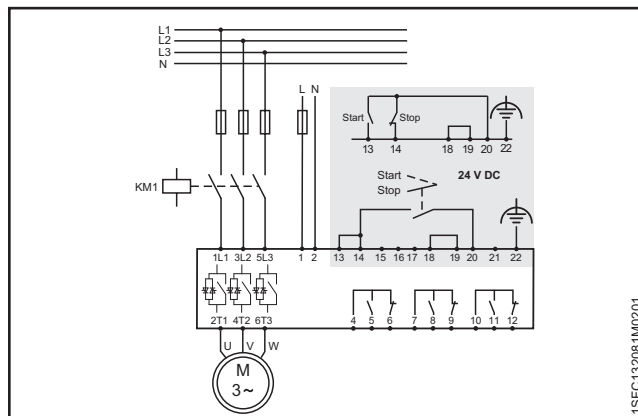

Figure 2.7
- Look at the diagram, **see Figure 2.7**, and connect the start/stop circuits: terminal 13, 14, 18, 19 and 20/21, with the internal 24 V DC terminal. When you use internal 24 V DC (terminals 20 or 21), the terminals 18 and 19 must be connected to each other. For external control circuit voltage, see chapter **5.1.2.3 Start and Stop - terminals 13, 14, 18, 19, 20, 21**.